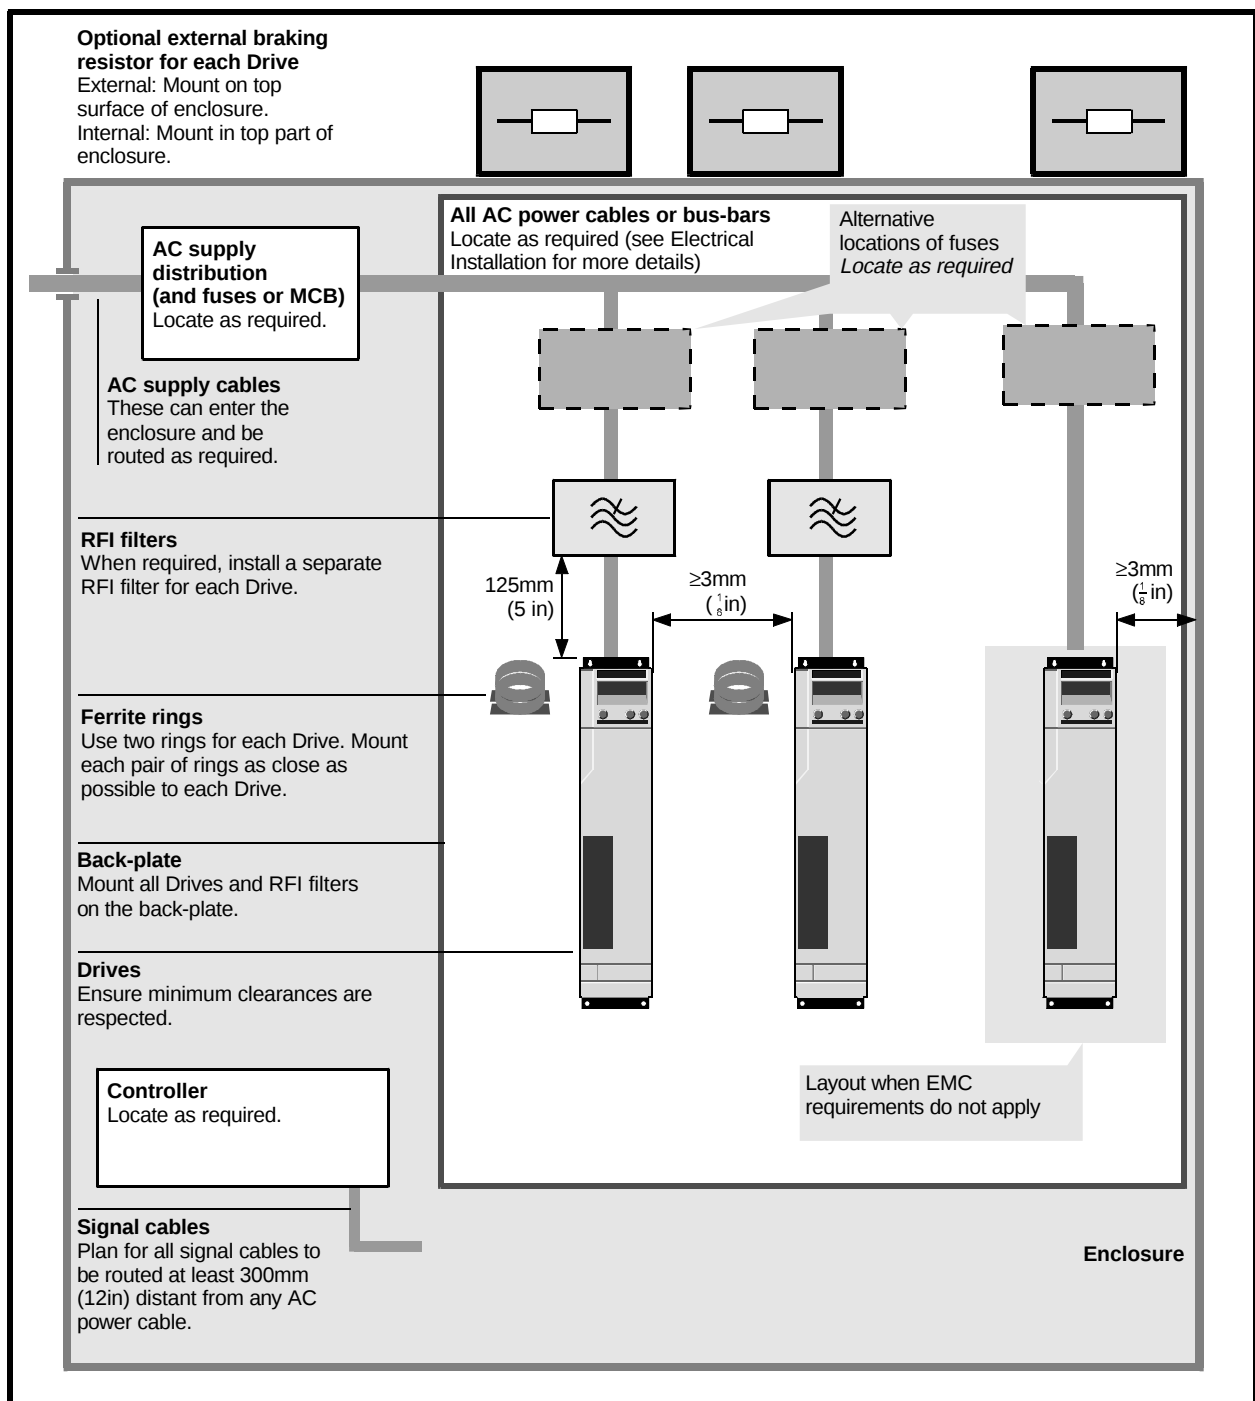

Figure 4–1 Planning the layout of the enclosure
2. Refer to Figure 4–1 to plan the layout of the equipment in the enclosure.